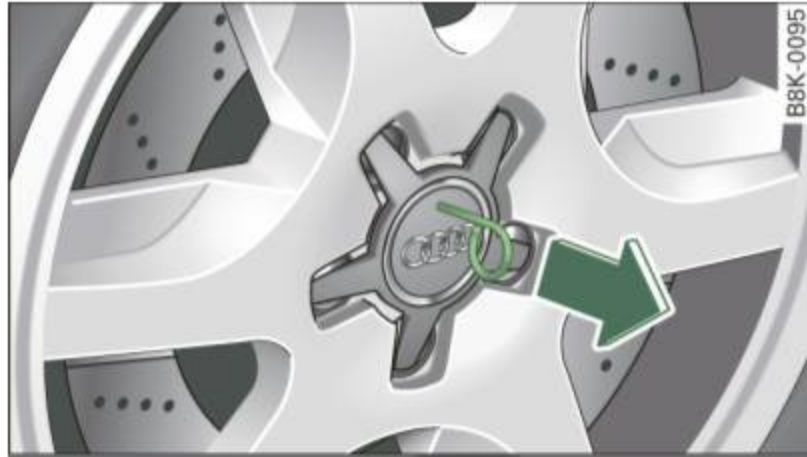

Fig. 228 Changing a wheel: removing the wheel cover
- Pull off the **decorative wheel cover** ⇒ fig. 228. ■